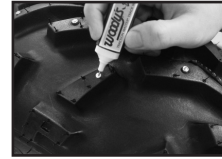

Figure 1
2. Mark a pattern on the tire/track using the Woody's Track Marker. (Figure 1) Alternate the screw position to create as many scratch lines as possible. Do NOT install in a straight line. When making a pattern on a snowmobile, do NOT place in line with any tunnel and/or bulkhead protectors.